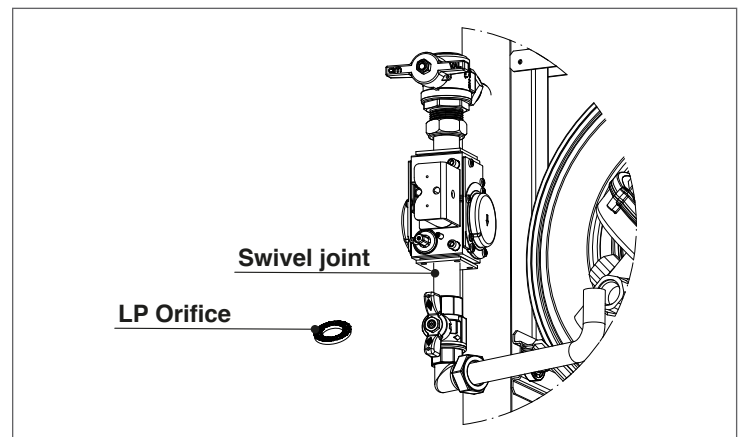

Fig. 16 Natural Gas to LP Gas Conversion
- Unscrew the swivel joint indicated in Fig. 16 to separate the valve from the connection pipe with the fan
- Place the provided metal orifice (Fig. 16) between the two gaskets (N° on orifice: 9.5)